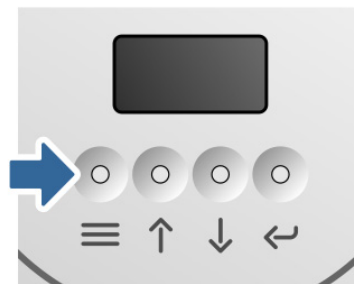

Figure 2. Menu button
1. See Figure 2. Press the MENU or ENTER control button once to activate the display.